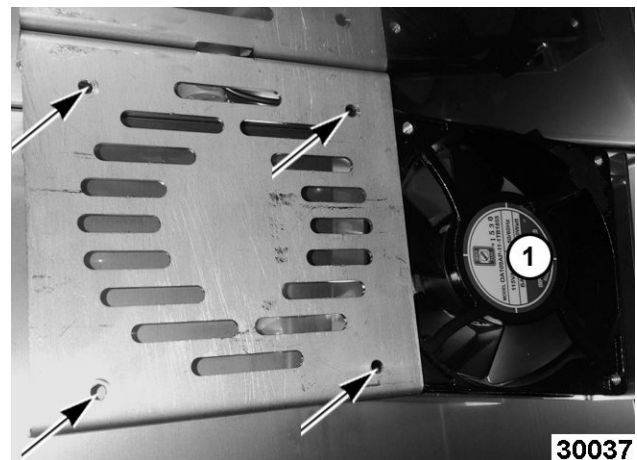

Fig. 5
3. Slide fan (1, Fig. 5) to access power connector.